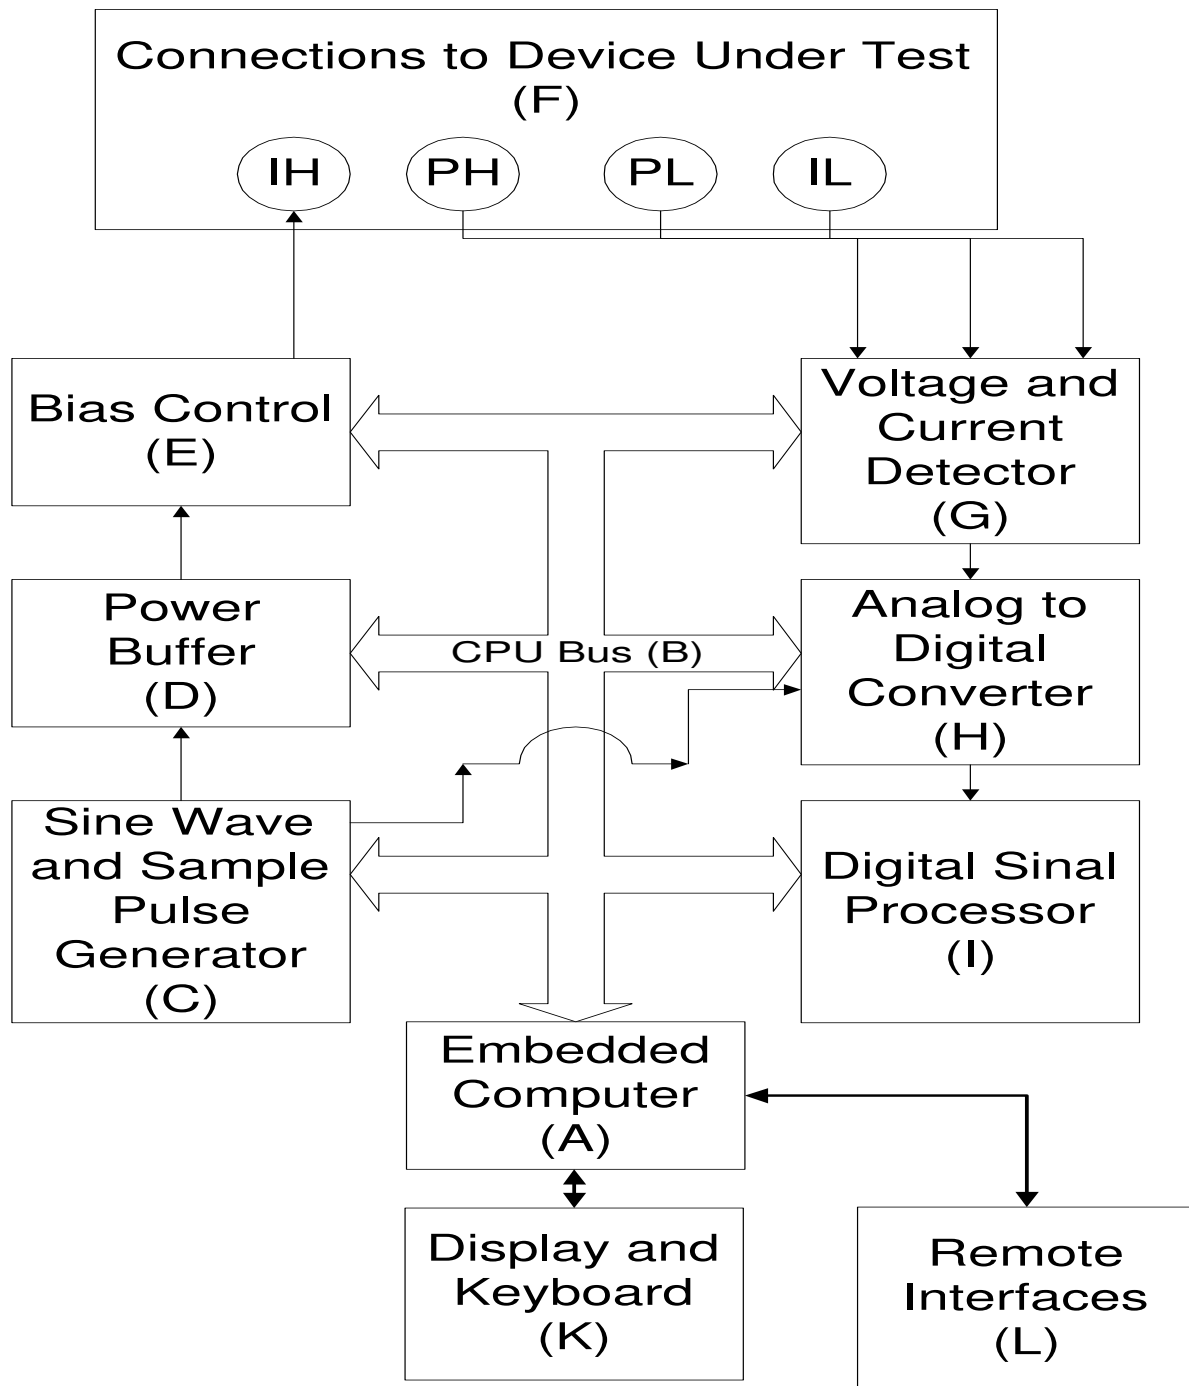

Figure 4-1: 1910 Instrument Block Diagram
The block diagram, Figure 4-1, shows the embedded computer connected via a CPU bus (B) composed of address, control and data lines to the other major functional blocks of the circuit.